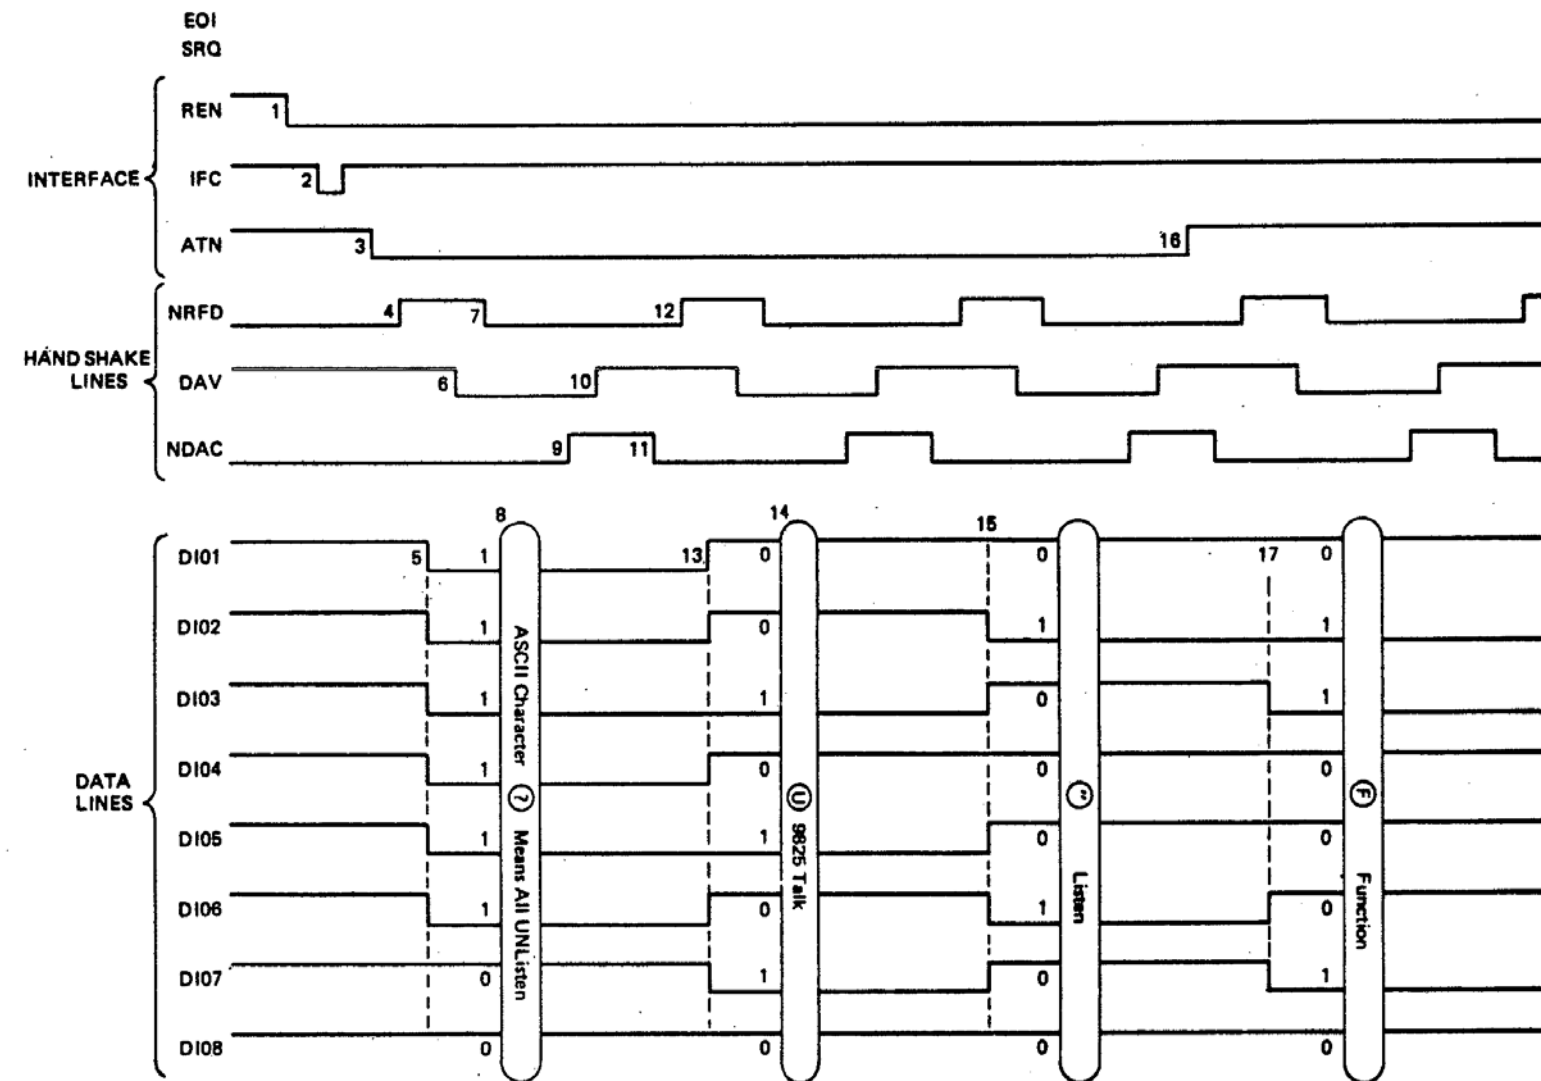

Figure 3.19 - Interface Timing
3.5.6.1 The transmission of programming instructions to the DMM and the subsequent transmission of measurement data to the controller are accomplished by transmitting programming instructions as outlined in the bus operation sequence in Table 3.9. Table 3.9 and the accompanying timing chart (Figure 3.19) illustrate the sequence of the transmission of device dependent messages to the DMM which cause it to measure the voltage applied to the input and then transmit the resultant measurement data to the controller via the interface bus.